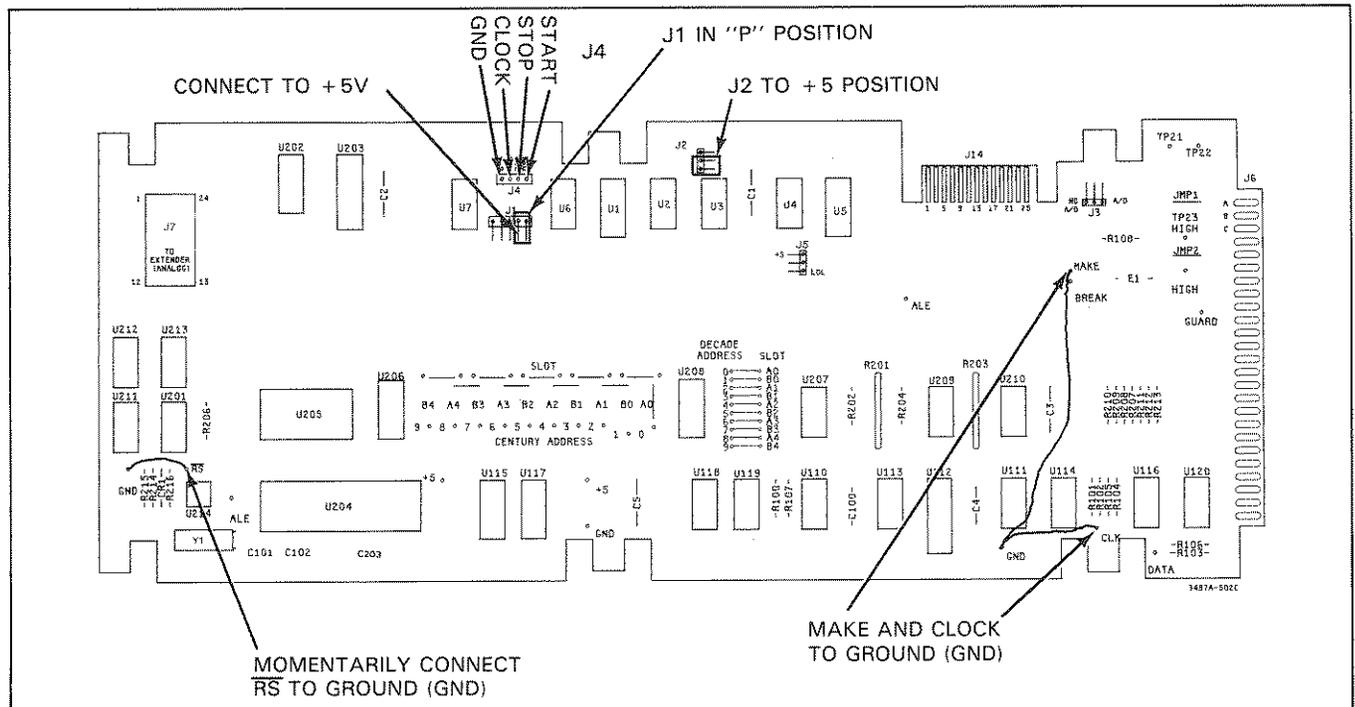

Figure 8-B-1. Setup for Inguard SA Test
- c. Locate the ribbon cable soldered to the voltmeter option board. Disconnect the cable from the inguard controller board (see Figure 8-B-1).
d. Locate jumper plug J1 and move the jumper plug to the "P" position, as shown in Figure 8-B-1.
f. Connect the signature analyzer as follows (see Figure 8-B-1):
n. If the signatures are wrong, the inguard processor or A/D logic is most likely at fault. Do the procedure in the flowchart located in Figure 8-B-2 (A/D Logic Troubleshooting). Do not change the present test setup. It will be used in the flowchart.